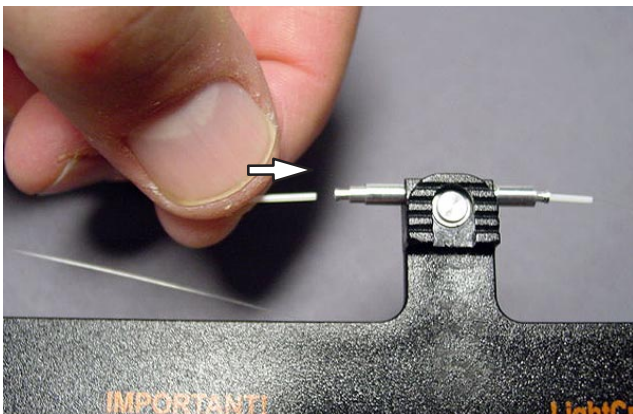

Figure 43
5. Insert the second 250- μ m white tube into the splice until it bottoms on side B. See Figure 43.